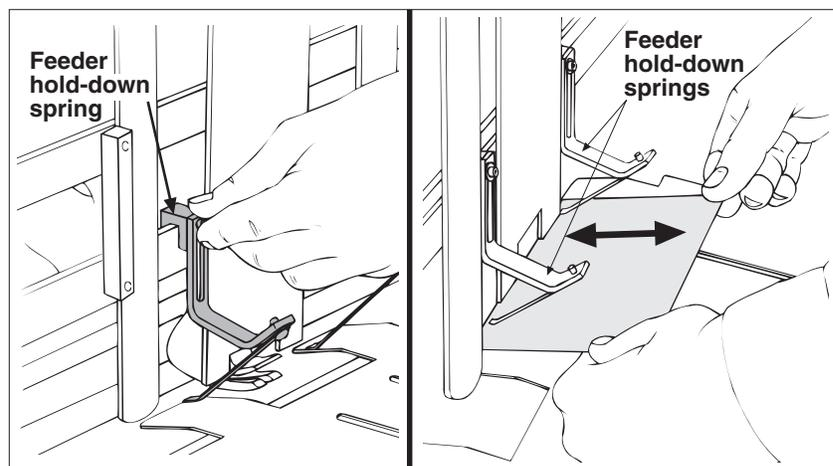

Figure 11. Installing Hold-Down Spring Assemblies and Testing for Drag
- Make adjustments as required and recheck. See Figure 11.